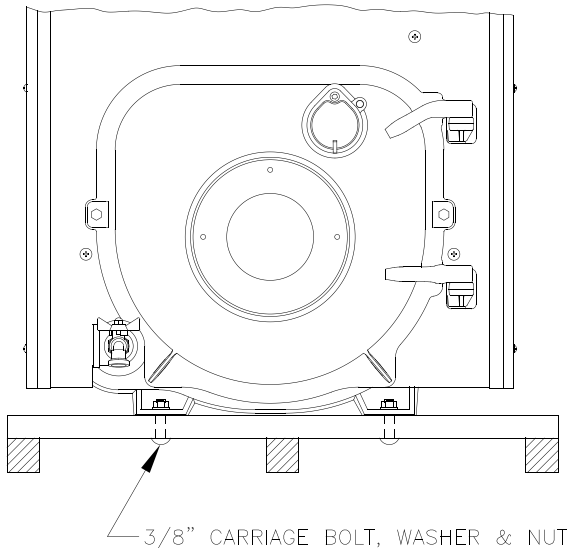

Figure 4: Removal of Boiler From Skid
1. Boiler is secured to base with 4 carriage bolts, 2 on left side and 2 on right side. See Figure 4. Remove all bolts.